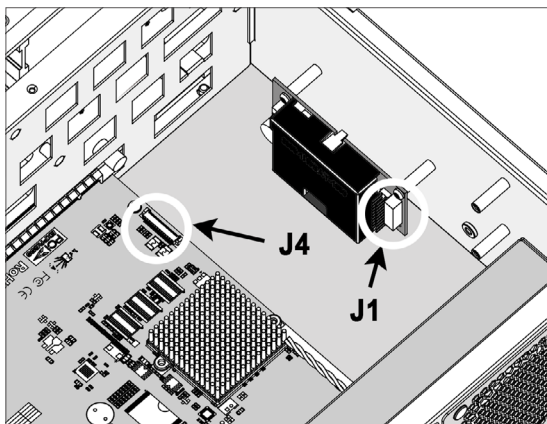

Figure C-7, Insert the cable connector into J1 & J4
3. Insert the cable connector into the **J1** (12-pin box header battery connector on ARC-6120-BAT121-7 module), and also insert another side of the cable connector into the **J4** (14-pin box header battery connector on ARC-8050T3-24R backplane), as shown in Figure C-7.